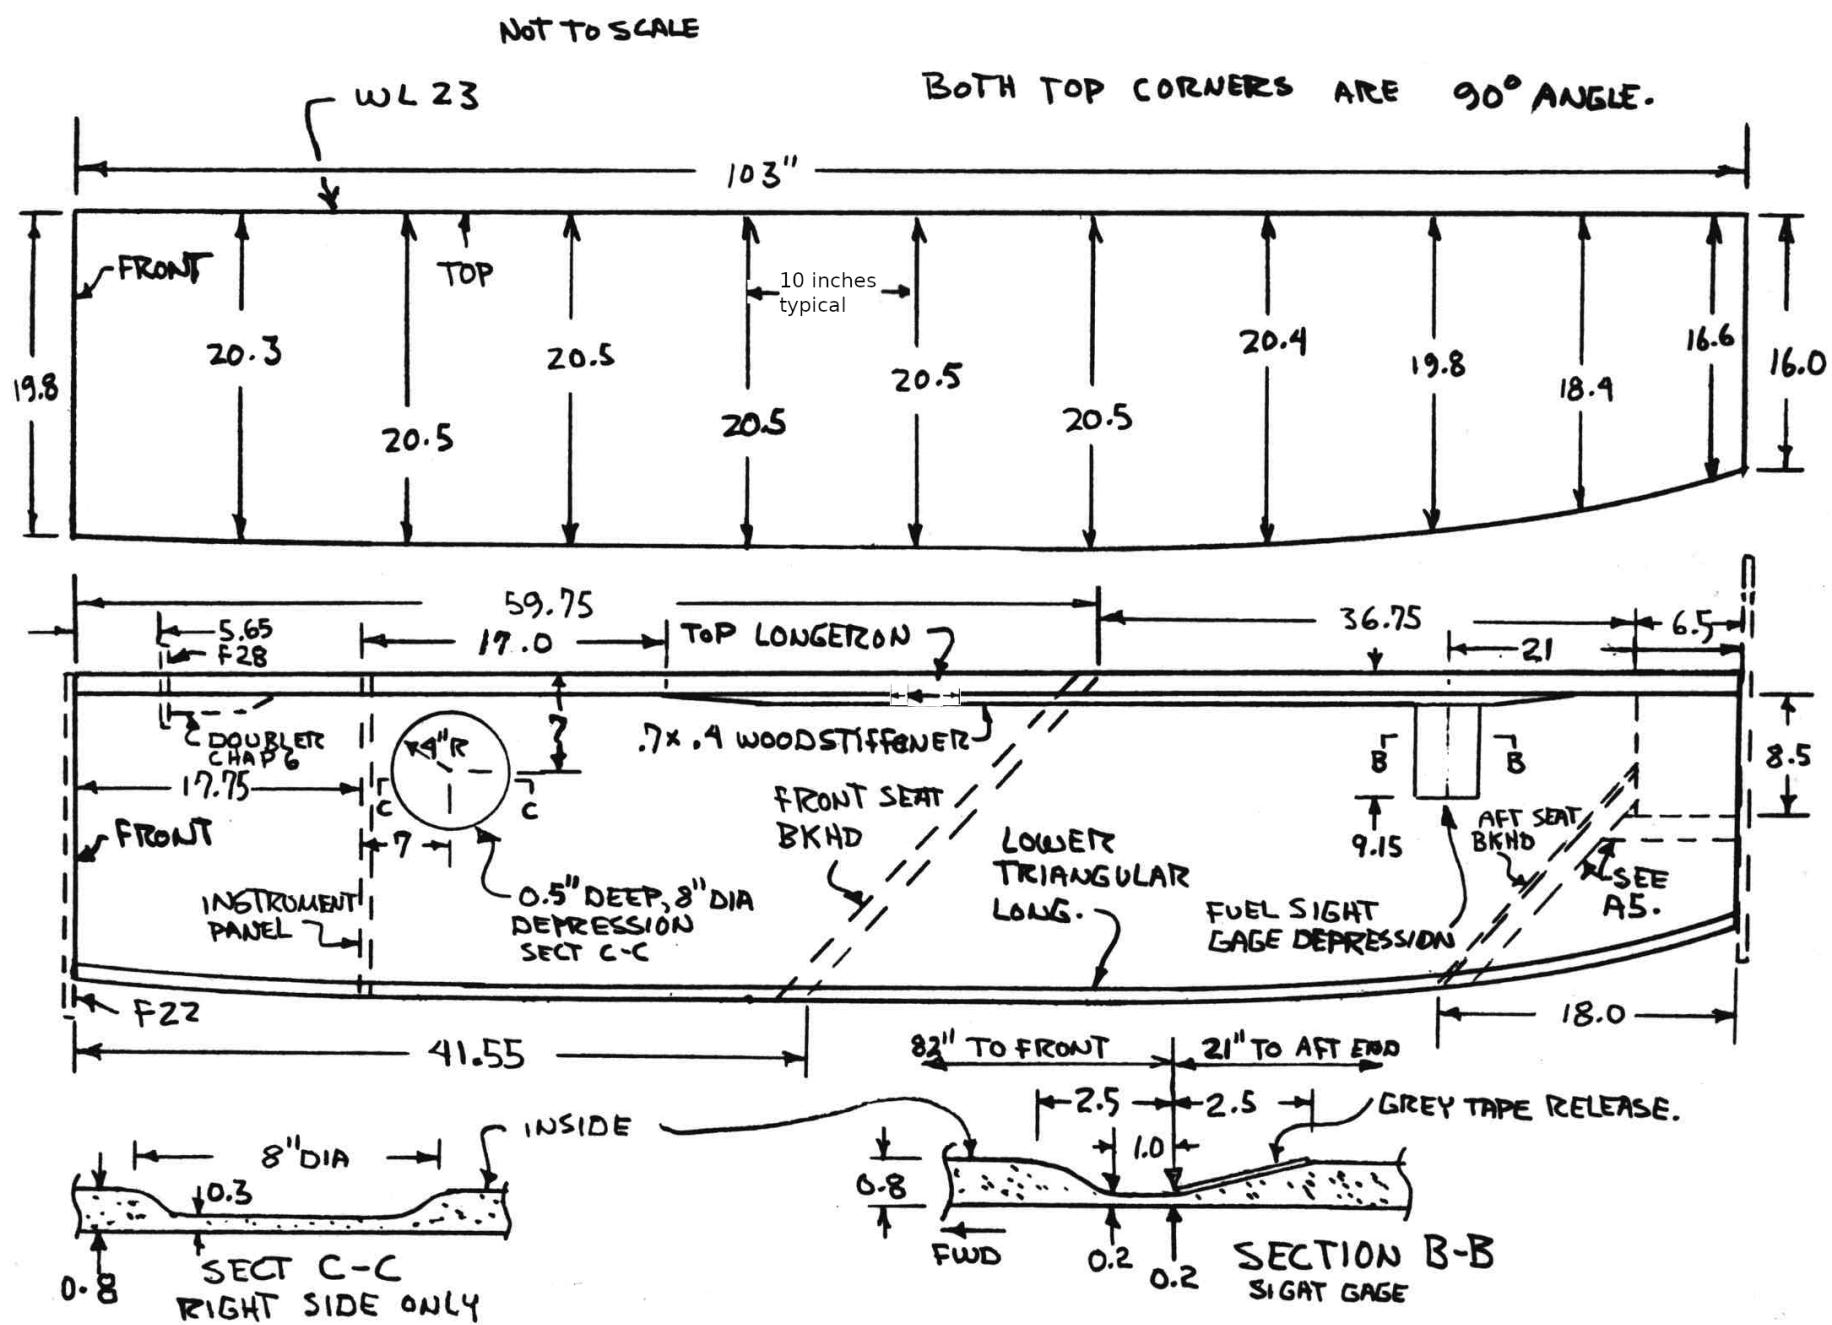

Figure 5-4: Bulkhead locations
**Note:** Distances between measurements in side view at top of Figure 5-4 is 10 inches, except for the last 3" of the fuselage. {CP25 PC 5 MEO}